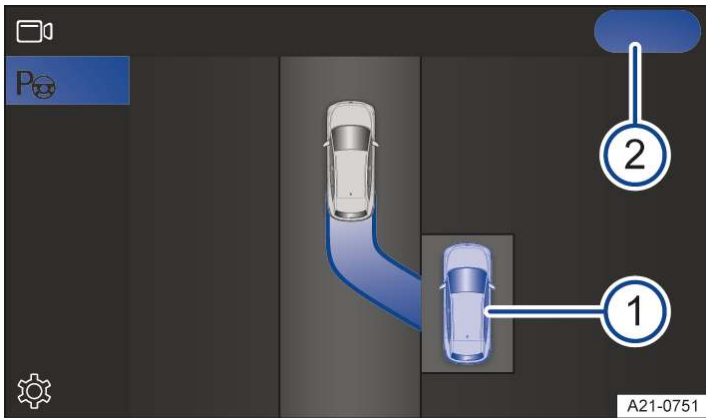

Fig. 1 Infotainment system: start the procedure for driving out of a parking space (illustration).
- ① Vehicle in a parallel parking space.
- ② Start to drive the vehicle out of the parking space.
5. Tap **Start** on the Infotainment system screen → Fig. 1 ②.